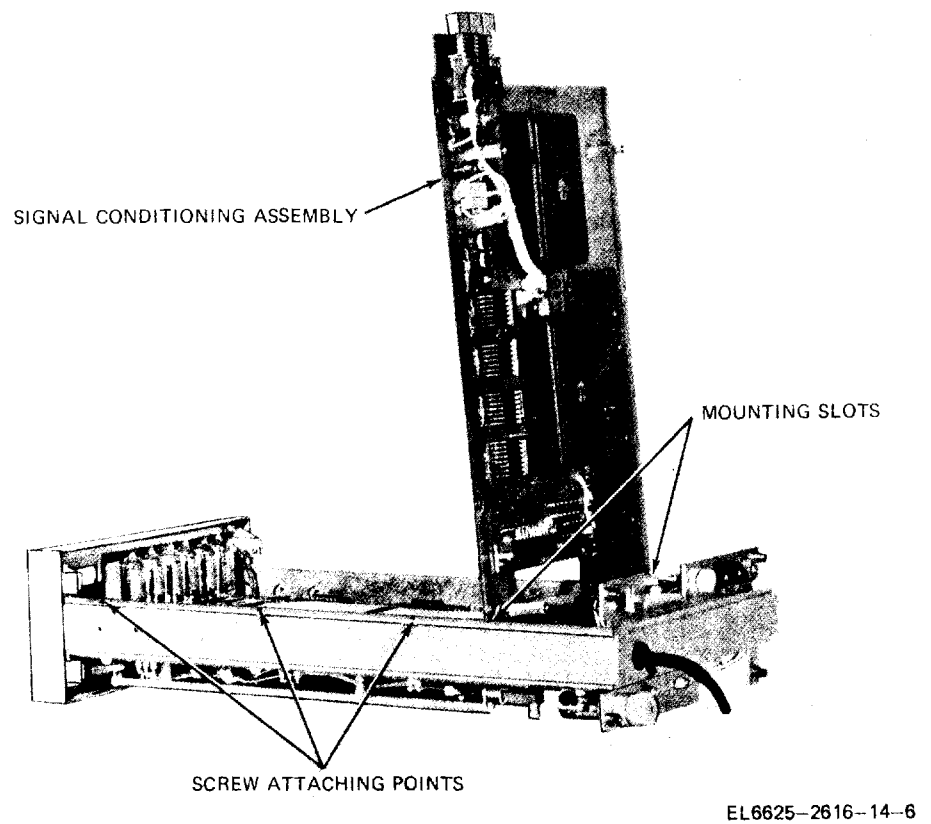

Figure 8-1. Signal conditioning assembly mounting.
(1) No connections necessary.
(2) Turn fuse holder cap counterclockwise and remove it from the body of the fuse holder.
(3) Remove top and bottom covers by removing two screws in each at rear of instrument and moving covers away and back toward rear of instrument.
(4) Remove top and bottom shields by removing four screws attaching each to standoffs on the circuit board.
(5) Remove six screws attaching signal conditioning assembly to chassis frame and place assembly upright in the slots provided (fig. 8-1).